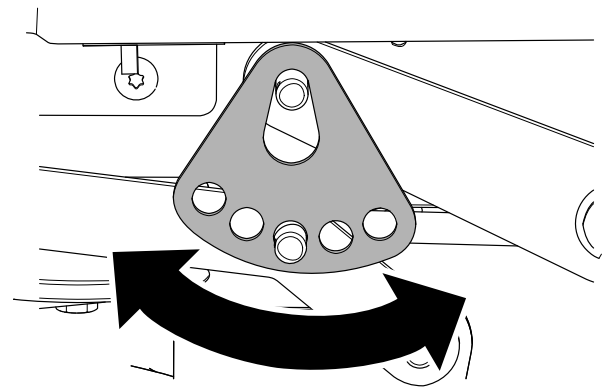

Figure 72
- 7. Rotate the height-of-cut plate to a different hole so that it supports the weight of the mower deck after you install the plate (Figure 72).
- 8. Install the washer and hairpin cotter (Figure 72).